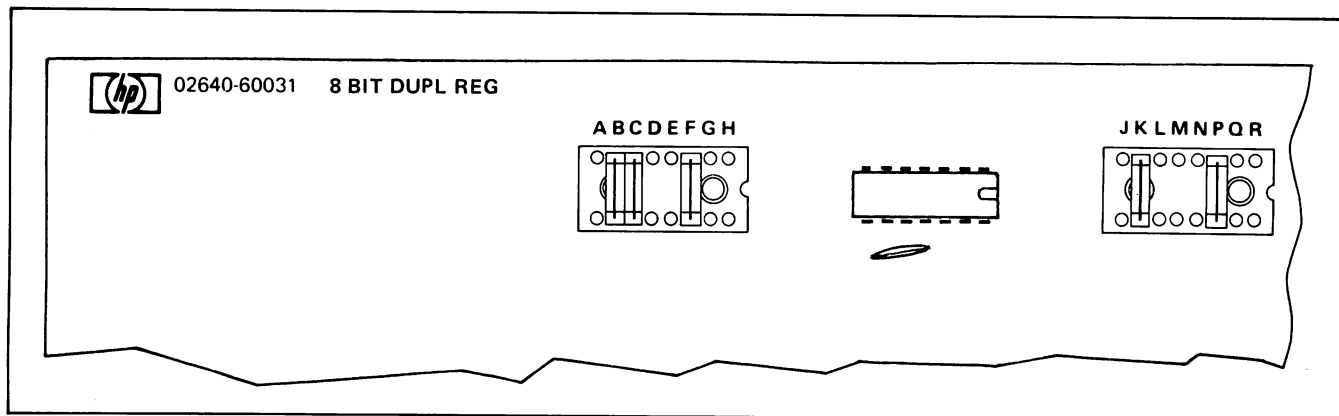

Figure 7-11. Terminal Duplex Register PCA Jumper Configuration
2. ( ) Configure jumpers in Terminal Duplex Register PCA jumper sockets as shown in figure 7-11.